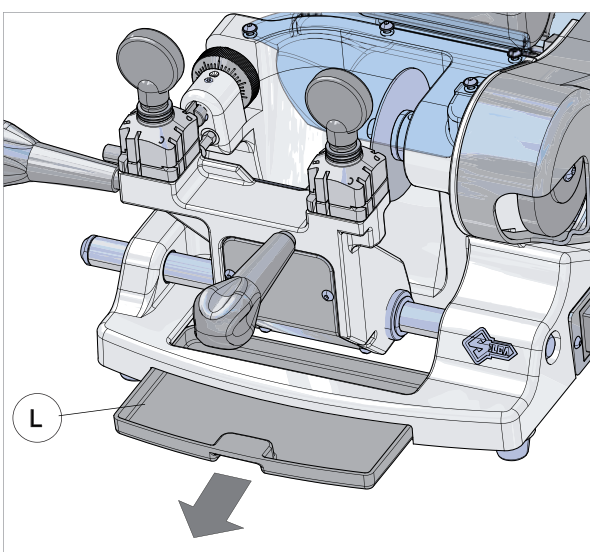

Fig. 40
- 2) Remove the swarf tray (L) (Fig. 40).